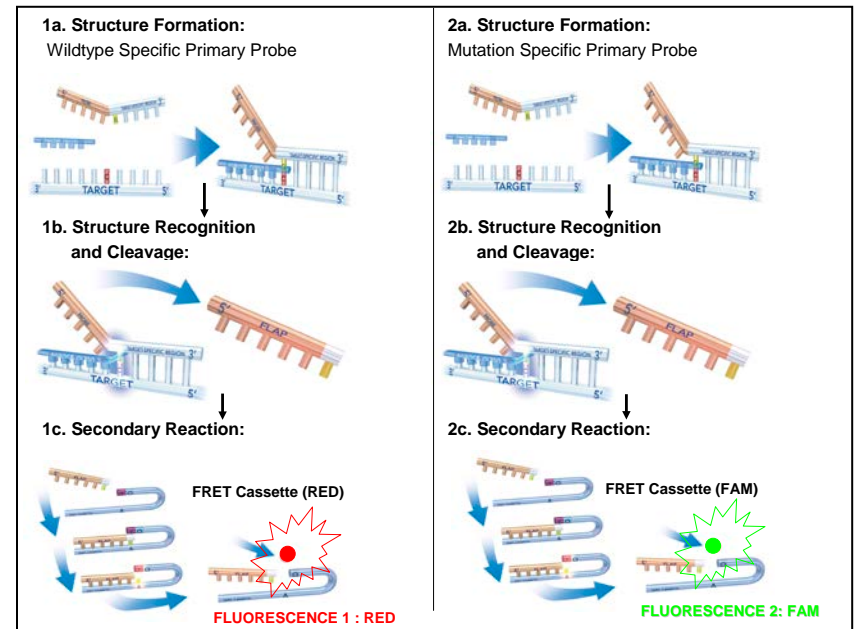

Figure 1: Invader® Signal Generation Phase
The Invader® Factor II test utilizes the Invader Plus® chemistry with DNA isolated from human whole blood for the detection of the targeted sequence polymorphism. Specifically, the Invader Plus® chemistry utilizes a single-tube, two phase reaction, including target amplification and signal generation (mediated by Invader® chemistry). Invader Plus® reaction mixes are assembled by combining the Factor II Oligo Mix, Universal Enzyme Mix, and Universal Buffer. In a 96-well plate, reaction mix is combined with purified genomic DNA samples, as well as four (4) controls included with the test. The No DNA Control is used by the interpretive software to set the "noise" component of the run for "signal-to-noise" calculations. The genotype-specific controls (WT, HET, MUT) ensure reagents were assembled correctly and perform according to the specifications. The 96-well plate is transferred to an appropriately programmed thermal cycler for target amplification and signal generation. In the target amplification phase of the reaction, amplification is carried out using "two-step" cycling conditions (i.e., denaturation & annealing/extension). Following amplification, Taq polymerase is inactivated by a 10 minute incubation at 99°C, after which the thermal cycler proceeds to 63°C to initiate the signal generation (Invader®) phase of the reaction (see Figure 1).
During the signal generation phase, a discriminatory Primary Probe transiently hybridizes to the amplified target sequence along with an Invader® oligonucleotide, to form an overlapping structure. The 5'-end of the Primary Probe includes a 5'-flap that does not hybridize to the target DNA. The 3'-nucleotide of the bound Invader® oligonucleotide overlaps the Primary Probe, and does not hybridize to the target DNA. The Cleavase® enzyme recognizes this overlapping structure and cleaves off the unpaired 5'-flap of the Primary Probe, releasing it as a target-specific product. The Primary Probe is designed to have a melting temperature aligned with the Invader® reaction temperature so that under the isothermal reaction conditions (~63°C) the Primary Probes cycle on and off the target DNA. This allows for multiple rounds of Primary Probe cleavage for each DNA target resulting in an accumulation of the number of released 5'-flaps. The released 5'-flap transiently hybridizes with a corresponding FRET cassette forming an overlapping structure that is recognized and the fluorophore is cleaved from the FRET cassette by the Cleavase® enzyme. The 5'-flap is designed to have a melting temperature aligned with the Invader® reaction temperature, so that the 5'-flaps cycle on and off of the corresponding FRET cassettes. This allows for multiple rounds of FRET cassette cleavage for each 5'-flap, and an accumulation of released fluorophore. When the FRET cassette is cleaved, a fluorophore and quencher are separated, generating detectable fluorescence signal. The format uses two different discriminatory Primary Probes, one for the mutant allele and one for the wild type allele (Figure 1). Each Primary Probe is assigned a unique 5'-flap, and distinct FRET cassette, with a spectrally distinct fluorophore. By design, the released 5'-flaps will bind only to their respective FRET cassettes to generate a target-specific signal, linking the wild type allele with one fluorophore (Fluorescence 1: RED) and the mutant allele with the second fluorophore (Fluorescence 2: FAM).